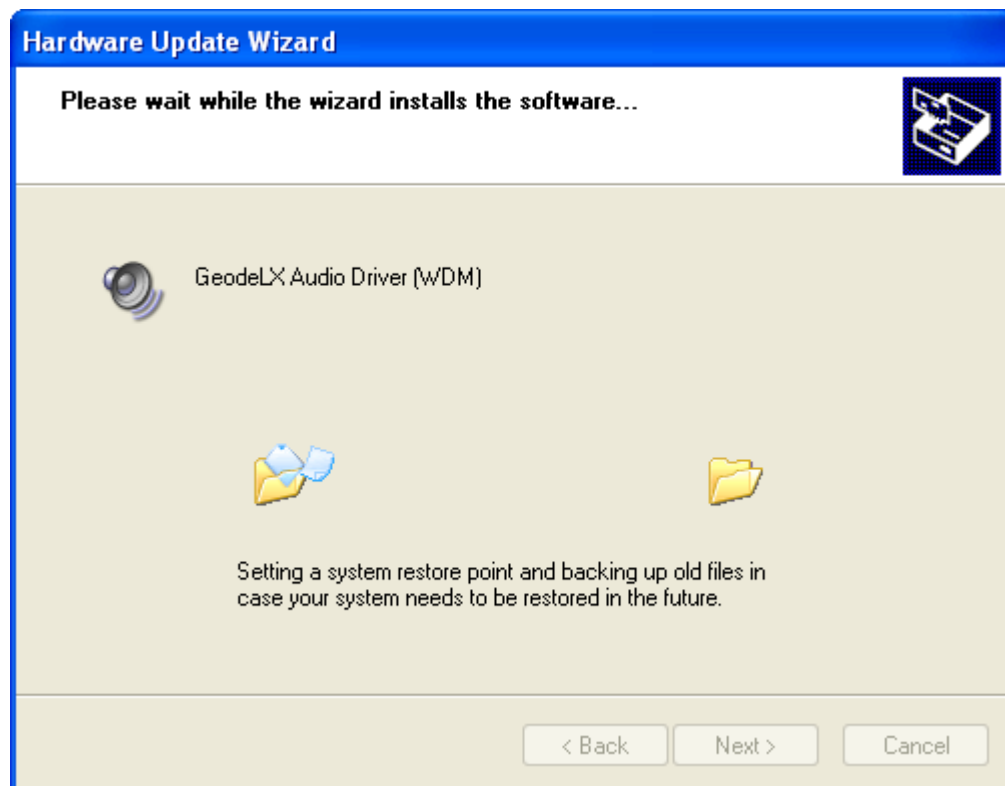

Figure 7-22: Audio Driver Installation
Step 13: The Wizard updates the driver. See **Figure 7-22**.